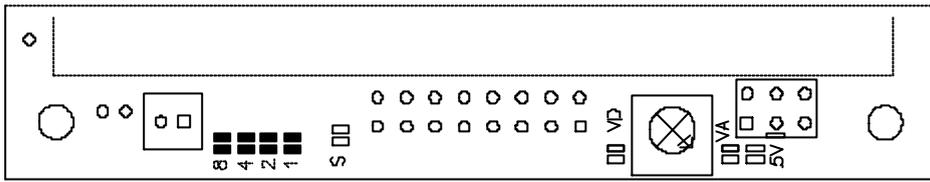
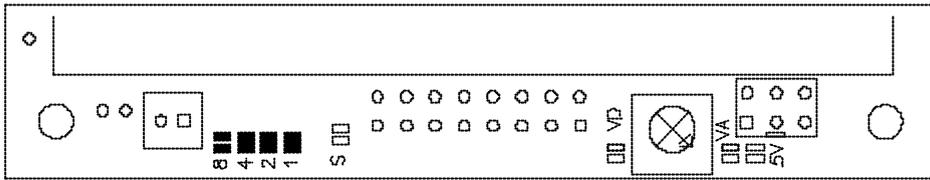

Figure 15: Oscillator Pulse Width Solder Jumpers (Default Configuration)
Figure 16: Example - Jumpers set for 28% Oscillator Pulse Width
The pulse width of the transmitter oscillator signal can be set by the four solder jumpers '8', '4', '2', '1' in 16 binary steps. '8' and '1' is printed on the RF module PCB close to the most significant (8) and least significant (1) solder jumpers. The four solder jumpers are arranged in ascending weight (see also figure 15). The oscillator pulse width determines the amplitude of the generated field strength. For more details refer to Section 4.5.1 "Adjustment of Oscillator Signal Pulse Width" and table 11. Figure 16 shows an example of solder jumper setting for 28% pulse width selection.